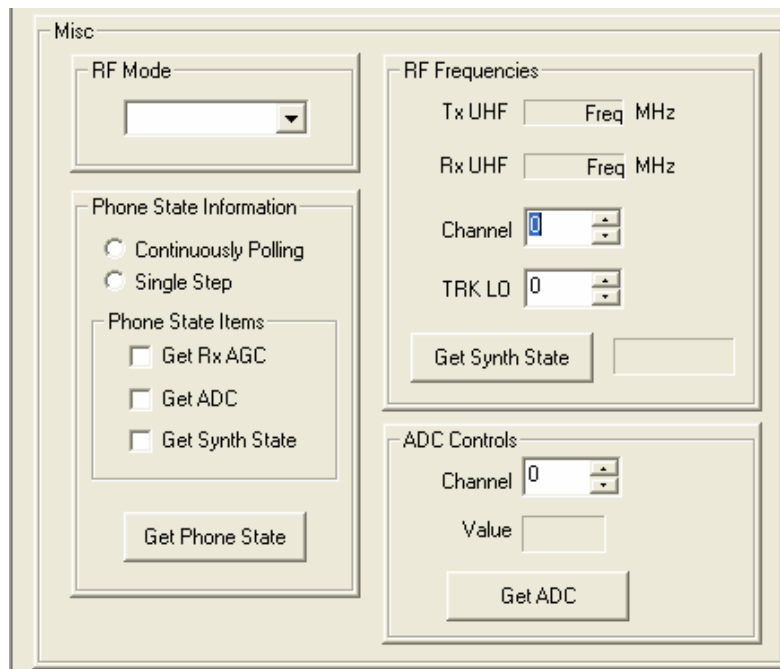

Figure 10-6 Miscellaneous CDMA 1X controls
The miscellaneous CDMA 1X controls, as shown in Figure 10-6, consist of the following:
- The TRK LO is used to set the tracking local oscillator (TRK LO), as shown in Figure 10-6. You set this value by clicking the up/down arrows or by double-clicking in the field and typing a number. TRK LO controls the voltage controlled temperature compensated crystal oscillator (VCTXO) frequency.